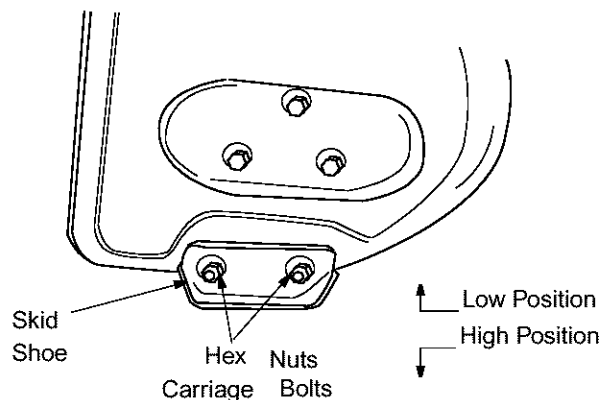

Figure 5
2. For close snow removal on smooth surface, raise skid shoes higher. See Figure 5.
3. Place skid shoes in middle or lower position when the area to be cleared is uneven. See Figure 5.
4. Adjust skid shoes by loosening the four hex nuts and carriage bolts as shown in Figure 5. Move skid shoes to desired position.